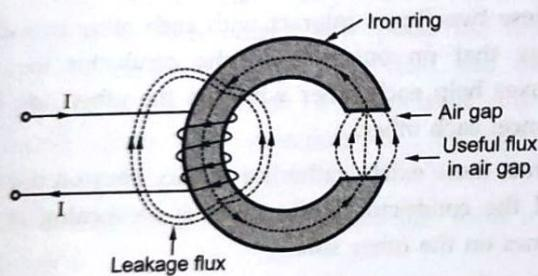

Fig. 1.16.1 Leakage and useful flux
- The Fig. 1.16.1 shows the useful and leakage flux.